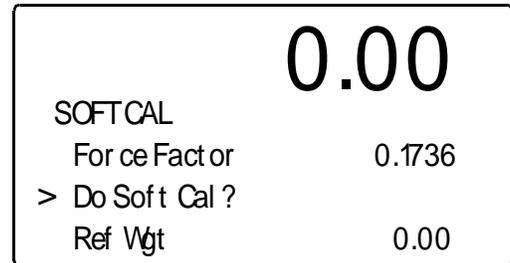

FIG. 2-27 SOFT CALIBRATION/DOING THE SOFT CALIBRATION
- Step 21. Press on the “-” button until the cursor is in front of “Do Soft Cal?”. (See Fig. 2-27)